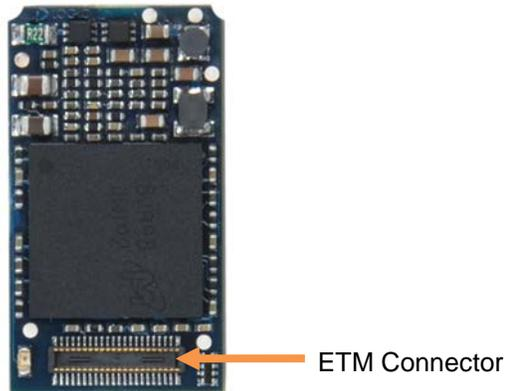

Figure 7.1: ETM Connector on SOM
1. Locate the ETM connector on the SOM. See Figure 7.1 below.